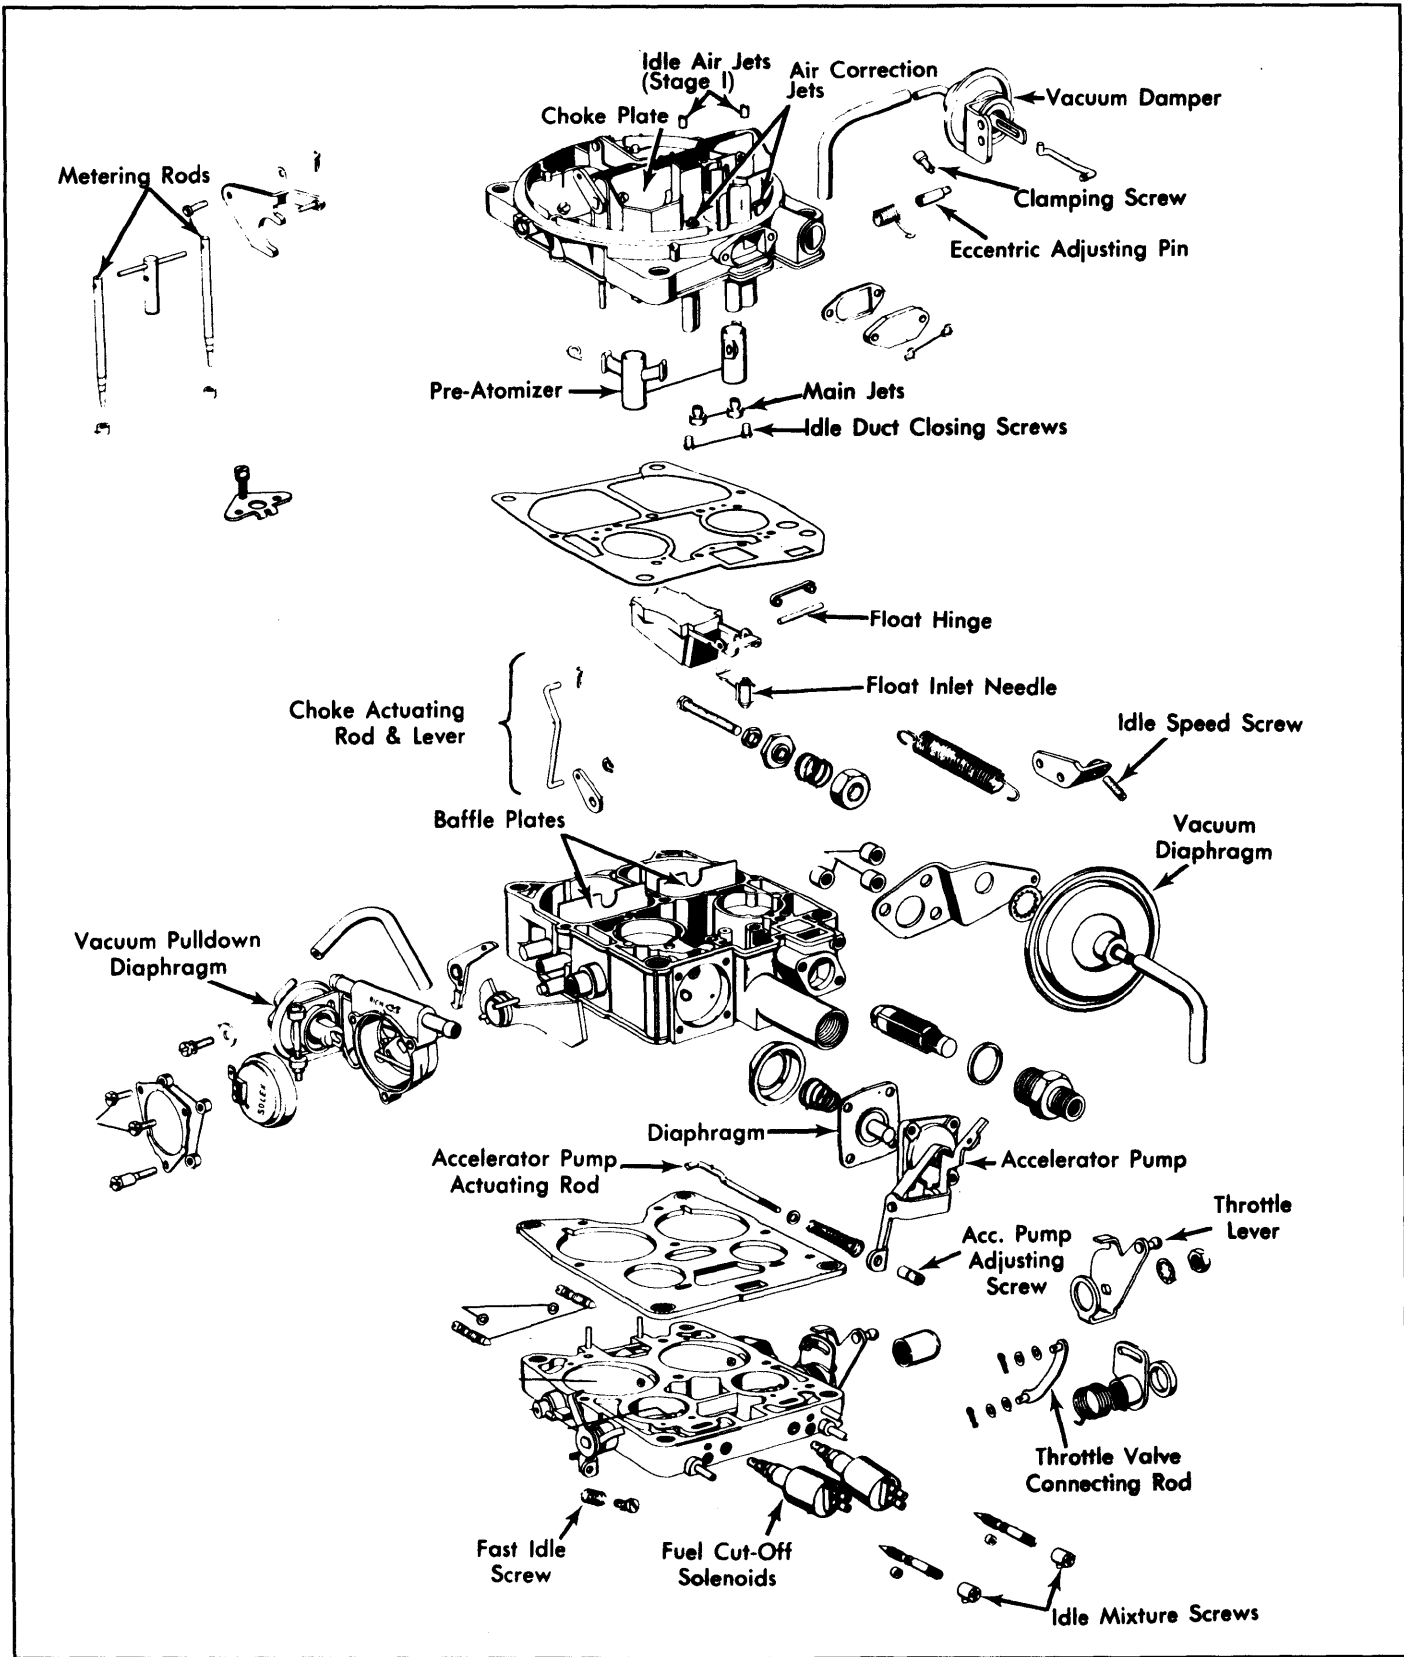

Fig. 7: Exploded View of Solex 4A1 4-Barrel Carburetor
2) Remove accelerator pump cover and diaphragm. *See Fig. 7.* Remove float hold down clip and remove float with needle valve. Remove main jets and plugs for idle speed fuel ducts.